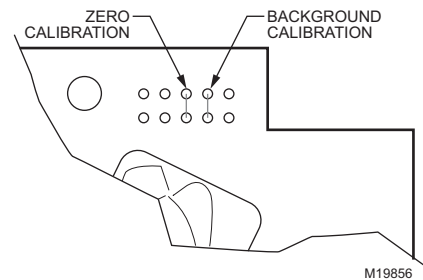

Fig. 25. C7632 calibration pads.
3. Execute calibration by shorting the proper two soldering pads (see Fig. 25).
5. Execute calibration by shorting the proper two soldering pads (see Fig. 25).